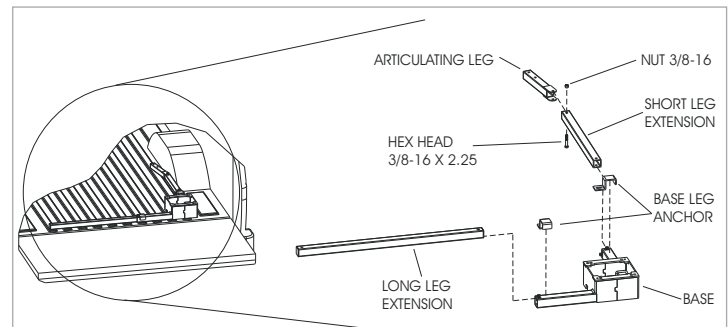

Figure 17-2
2. **Install the Leg Extensions into Base** and place Anchors (if included) into the Base leg nearest to the Hex Head Bolts; the Long Leg is to run parallel with the bumper. The short leg is to run from rear to front of the vehicle. Attach Articulating Leg (if included) to the short leg. A minimum of 4" of the Leg Extensions are to be within the Base legs. *Tighten by hand, the Hex Head Bolts on the Base to keep the legs from moving. Reposition the Base with legs attached to nearest corner of the vehicle.* *[Figure 17-2]*